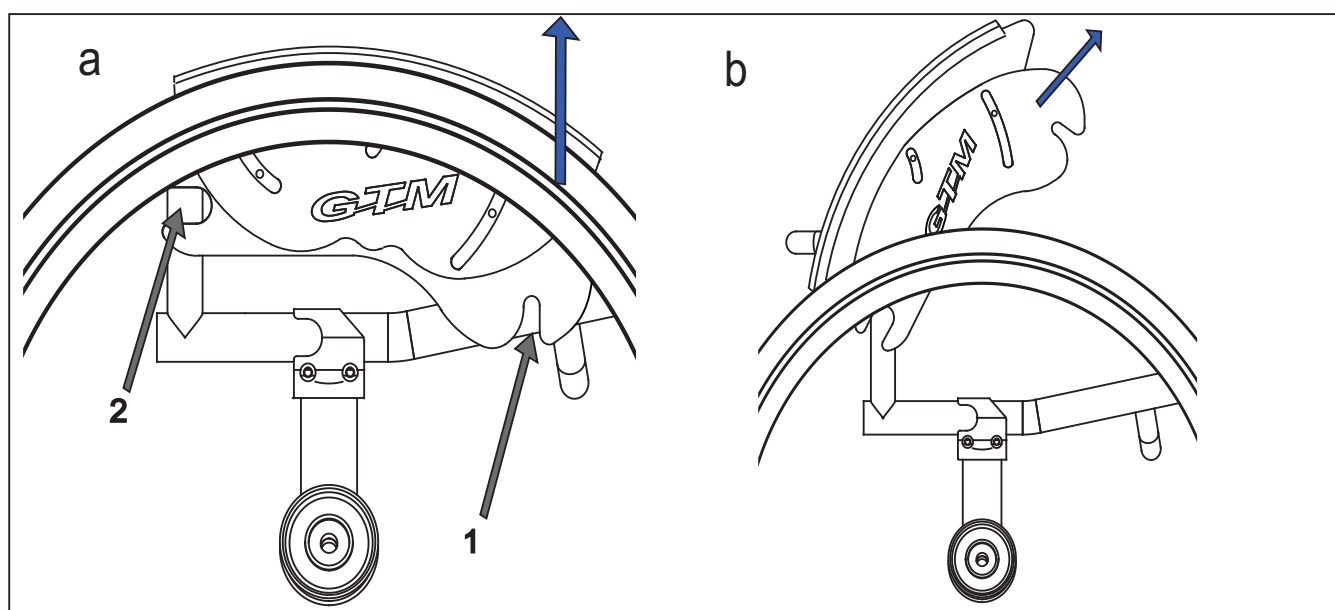

Fig.20. Removing skirtguards
b) Two cut outs on the side locate the skirtguards. To remove raise the front edge so that it pivots around point 2 in Figure 20 and detach. The backrest should not be adjusted without removing the skirtguards.